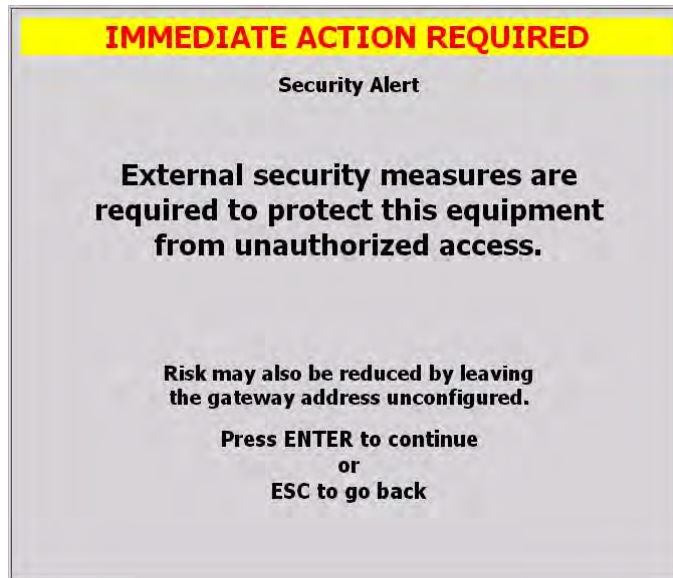

Figure 4.3-1 Network Connection Security Alert
7. Read the alert (see Figure 4.3-1) and press Enter.